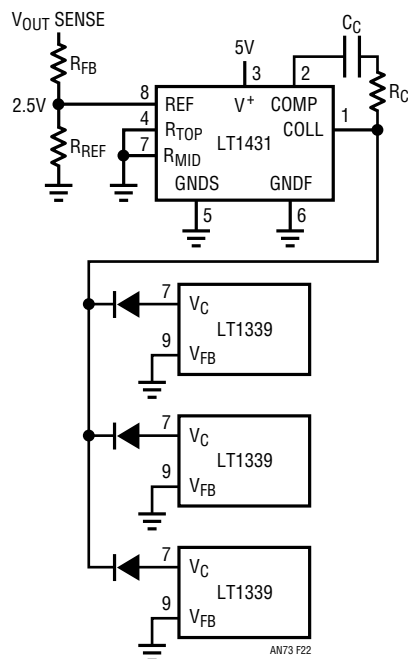

Figure 22. Peer Level Current Sharing
2. Operating peer-level power converters with a master system loop is detailed in Figure 22.